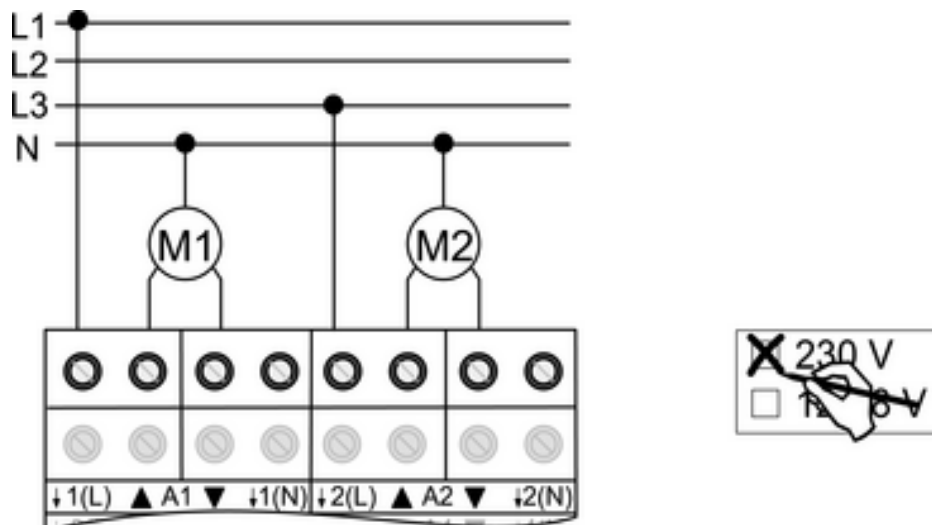

Figure 6
- Connecting the motors (figure 6).
- Mark **230 V** use on label (figure 6).
- i** The N conductor connections (14) serve only to detect the operation time and do not provide any N potential.